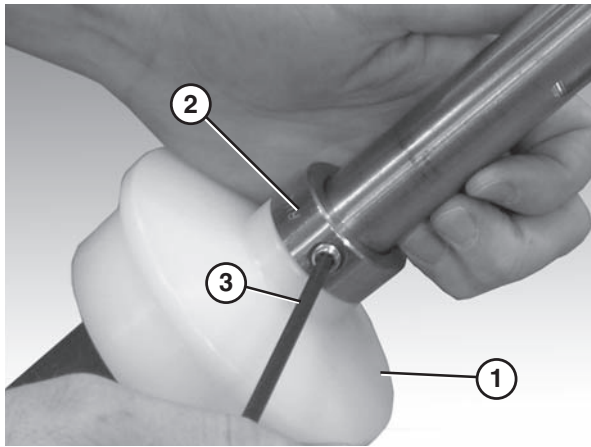

Figure 83
- Slide the second flanged puck (Figure 83, item 1) and the retaining ring (Figure 83, item 2) onto the drive spindle.
- Tighten the retainer ring fastener (Figure 83, item 3) using a hex wrench.